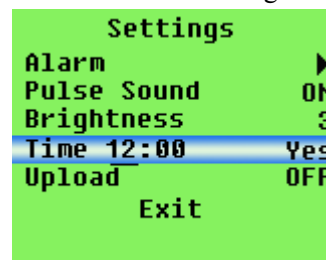

Figure 10.
- b.** When the "Start" is displayed on the menu, if the memory still have the former data in storage, the "Do you really want to recover the memory" dialog box will be displayed when pressing the "menu" button, then press the "up button" or "down button" to choose setting, then press the "menu button" to confirm setting, the dialog box will be displayed as figure 10: It needs to set the starting time for data storage by users, users can change the setting value by pressing the "up button" or "down button", and confirm the setting value by pressing the "menu button", the black cursor will move to next place after setting. When the black cursor move to "Yes" (store) or "No" (don't store), press the "up button" or "down button" to choose setting, then press the "menu button" to confirm setting.